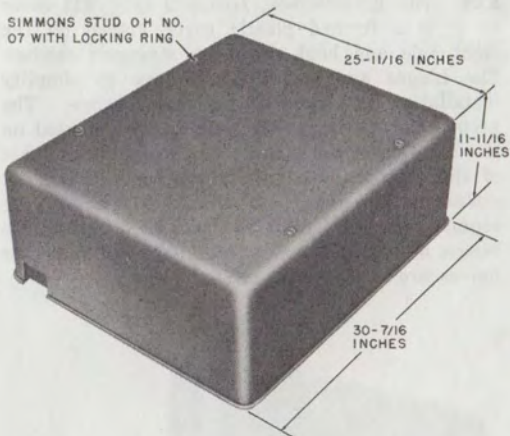

Fig. 38—Cover per ED-69368-50, Group 2
8.05 The cover per ED-69368-50, Group 2 (Fig. 38) is designed to enclose one 26A apparatus mounting on an ED-69368-50, Group 1 or 3 backboard.